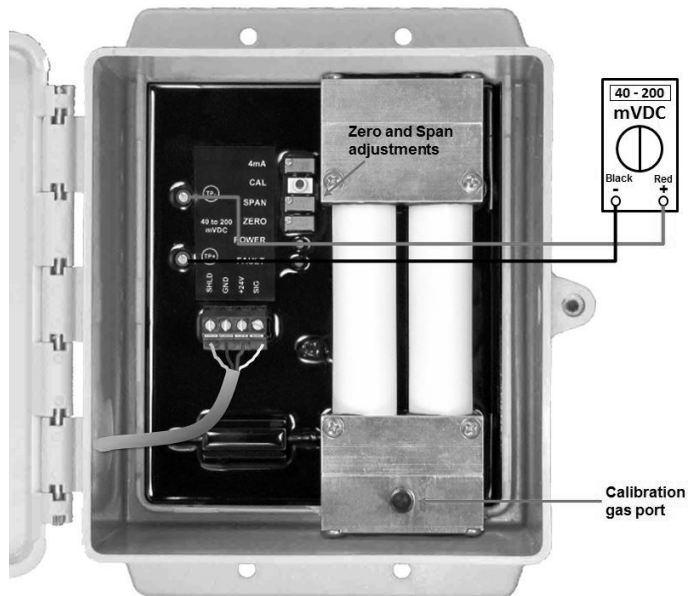

Figure 3: Sensor board components and zero/span adjustments
- Adjust the zero pot until the sensor outputs 40 mVDC from test points [-] to [+] (see **Figure 3**).
- Connect tubing to the calibration port of the infrared tube. (see **Figure 3**)